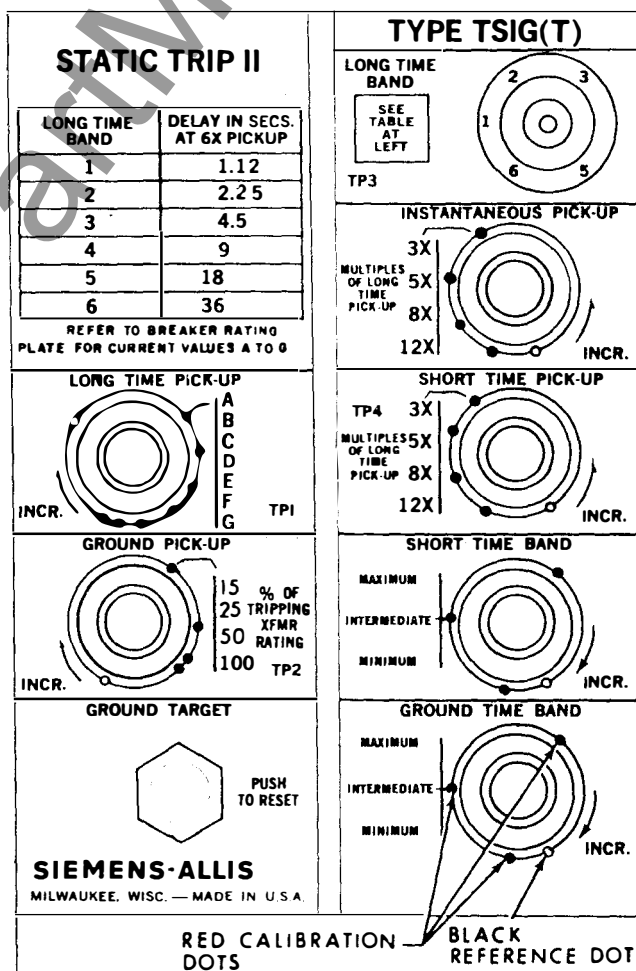

Figure 9. — Calibration Marks
The type designation is coded to indicate the functional elements: T = LONG-TIME delay element, S = SHORT-TIME delay element, I = INSTANTANEOUS element, G = GROUND current element and (T) = a TARGET which indicates when tripping is initiated by the ground element. For each element except INSTANTANEOUS there are two adjustment knobs on the front of the device, one for pick-up setting and one for delay setting. The instantaneous element has only one knob for pick-up setting. See Figure 9. Following are brief descriptions of the nine types:
Figure 9 is an illustration of the type TSIG(T) device which contains all Static Trip II control options. The following paragraphs discuss the calibration and use of these controls.